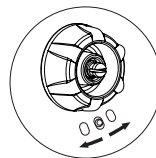

Fig.6
- **Adjusting view angle position.** (Please see fig.6)